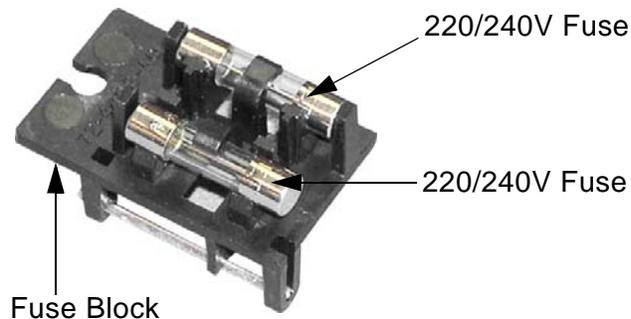

Figure 90. 220/240V Fuse Installation
- 2 Invert the fuse block and install the two 220/240V fuses into place, as shown in Figure 90.